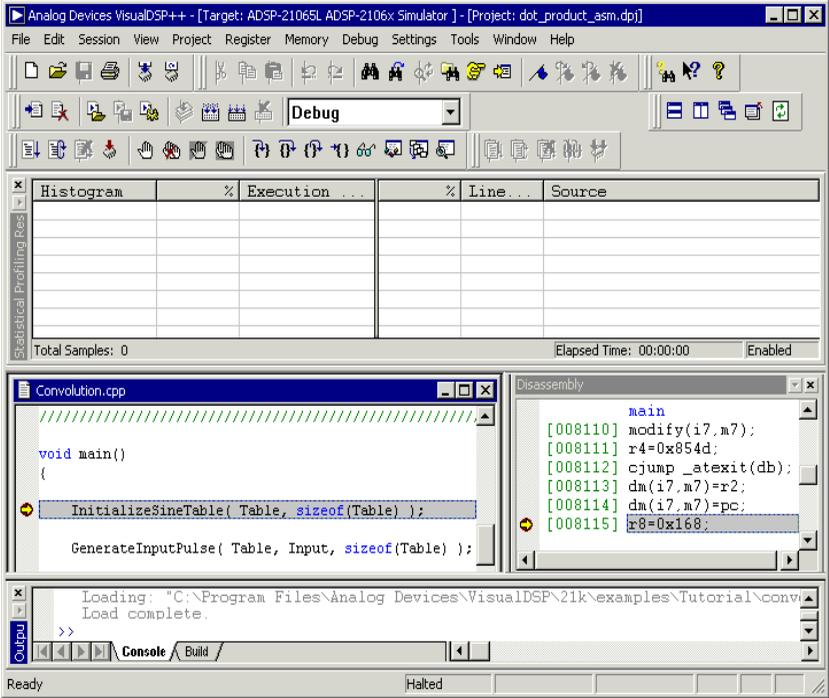

Figure 3-33. Statistical Profiling Results Window (Empty)
- 2. From the View menu, choose **Debug Windows**. Then choose **Statistical Profiling Results** to open the **Statistical Profiling Results** window, shown in Figure 3-33.